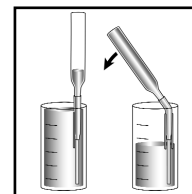

Figure 5
7. Place the VACUette between the vertical tip guides on the inside of the dilutor snapper cup. Snap the ampoule tip. The ampoule will fill leaving a bubble for mixing (fig. 5).